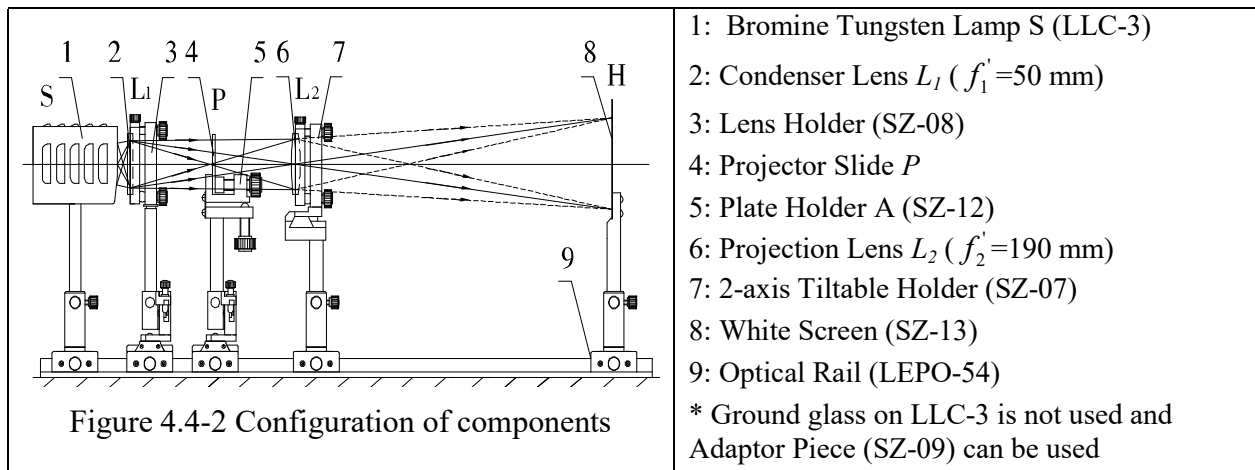

Figure 4.4-2 Configuration of components
- 1) Refer to Figure 4.4-2, align all components in same height on the optical rail, set the distance between L_2 and screen H about 0.8 m (if space available, it should be better to set a larger distance);